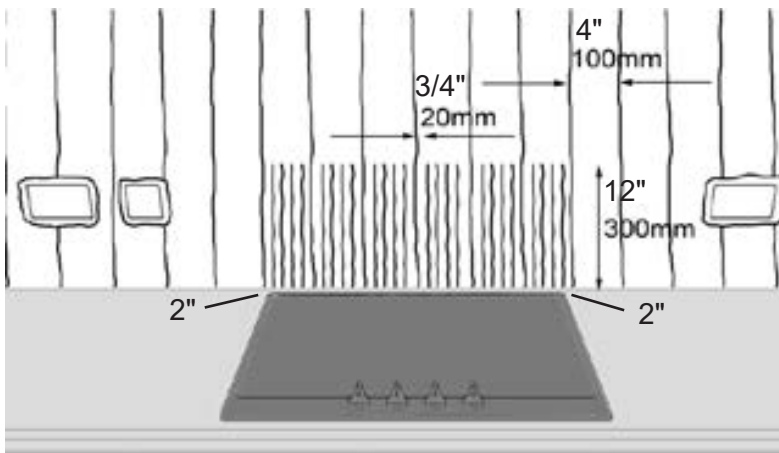

Figure 11A
- The area directly behind the cooktop should also have additional 1/4" (7mm) diameter vertical beads spaced 3/4" (20mm) apart and at least 12" (300mm) high. (FIG. 11A)